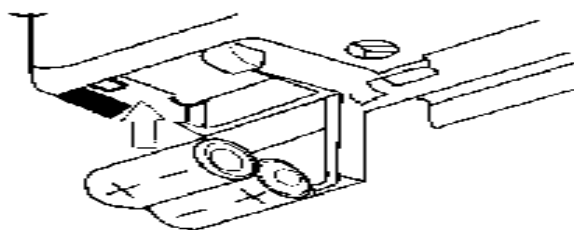

Fig 8
Do not confuse the positive and negative ends of the D cells. (Fig.8)
- To replace the batteries please see above "cell installation" (fig. 8)